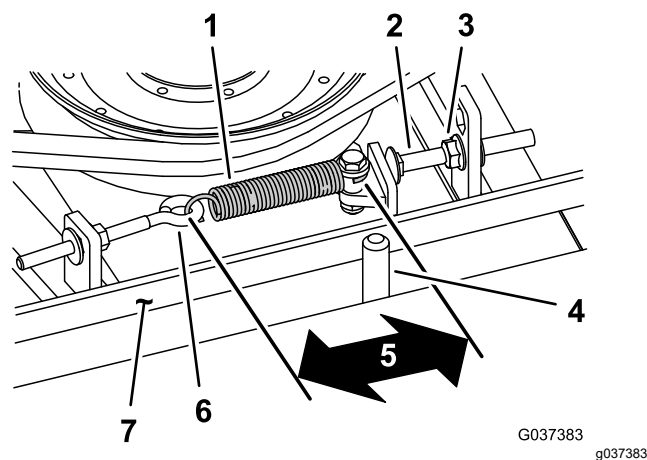

Figure 77
When properly tensioned, the inside measurement of the extension spring (hook to hook) should be approximately 8.3 to 9.5 cm (3-1/4 to 3-3/4 inches). Once the correct spring tension is attained, adjust the stop bolt (carriage bolt) until there is approximately 2 to 5 mm (0.065 to 0.185 inch) clearance between the head of the bolt and the idler arm (Figure 77).
Note: Ensure that the belt is positioned on the spring side of the belt guide (Figure 77).
2. Loosen the eye bolt allowing the removal of the extension spring (Figure 77).
3. Loosen the flange nut securing the stop bolt to the mounting tab and move the idler pulley away from the belt to release the belt tension (Figure 77).
9. Connect the extension spring (Figure 77) to the eye bolt and tension the belt as follows: